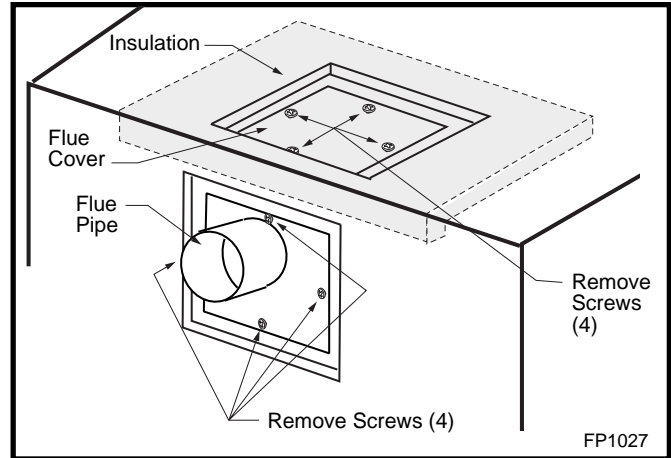

Fig. 12 Remove flue cover, flue pipe and insulation pad.
3. Remove the insulation material (exposed in Step 2) from the top of the unit. (Fig. 12) This material can be discarded. However, if the unit is converted back to rear vent for any reason a new piece of insulation material approved by Vermont Castings, Majestic Products must be used for this purpose.
4. Remove the four (4) screws securing the flue cover plate to the top of the intake box and remove the cover and gasket. (Fig. 12)
5. Remove the four (4) screws securing the flue pipe to the back of the intake box and remove the pipe and gasket. (Fig. 12)